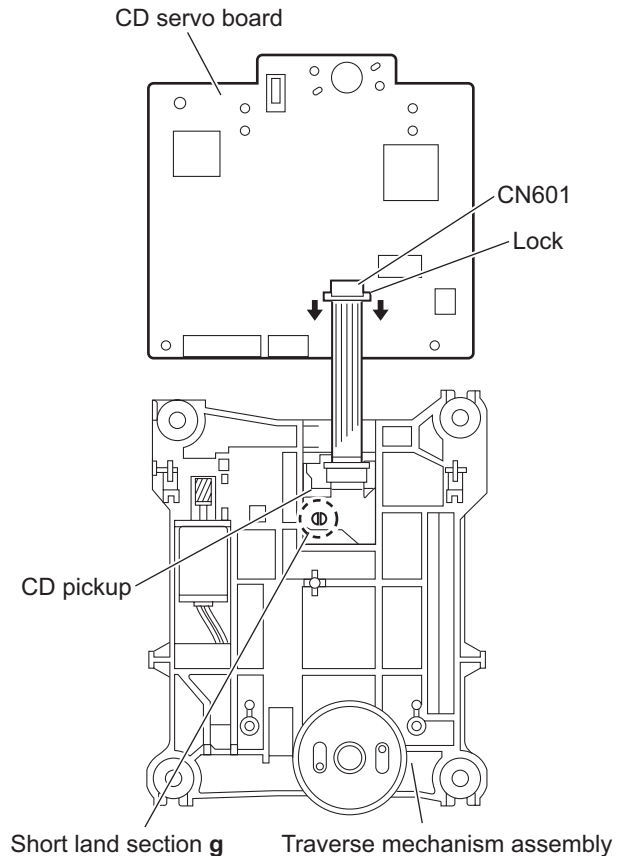

Fig.6
- (6) Solder the short land sections **g** on the CD pickup. (See Fig.6)
- (7) Release the lock of the connector CN601 on the CD servo board in the direction of the arrow and disconnect the card wire. (See Fig.6)
- Solder the short land sections **g** on the CD pickup before disconnecting the card wire from the connector CN601 on the CD servo board. If the card wire is disconnected without attaching solder, the CD pickup may be destroyed by static electricity. (See Fig.6)
- When attaching the CD servo board, be sure to remove solders from the short land sections **g** after connecting the card wire to the connector CN601 on the CD servo board. (See Fig.6)